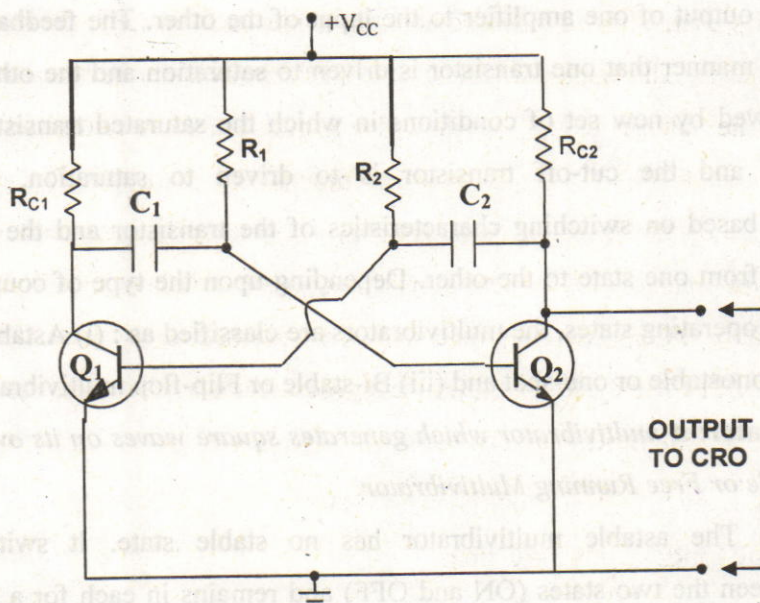

Fig.11.1
3. Connect the circuit as shown in Fig.11.1 with suitable components on a bread board.